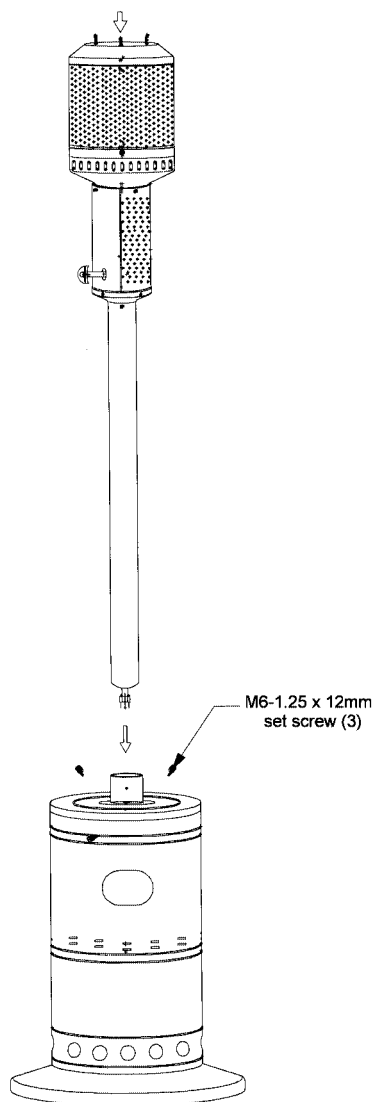

Figure 5: Step 7
Carefully insert the post into the post support socket (base assembly) and make sure that the lower end of the fuel line passes through the hole in the post support plate. Using three (3) M6-1.25 setscrews secure the post into the support socket with the supplied Allen wrench. Make sure that the setscrews firmly grip the post. See figure 5.